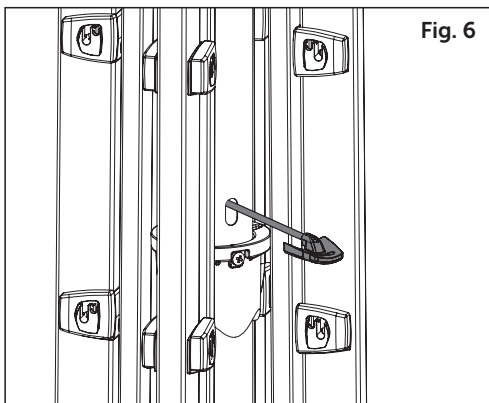

Fig. 6
1. Pull line retainer out from above the latching mechanism (Fig. 6).